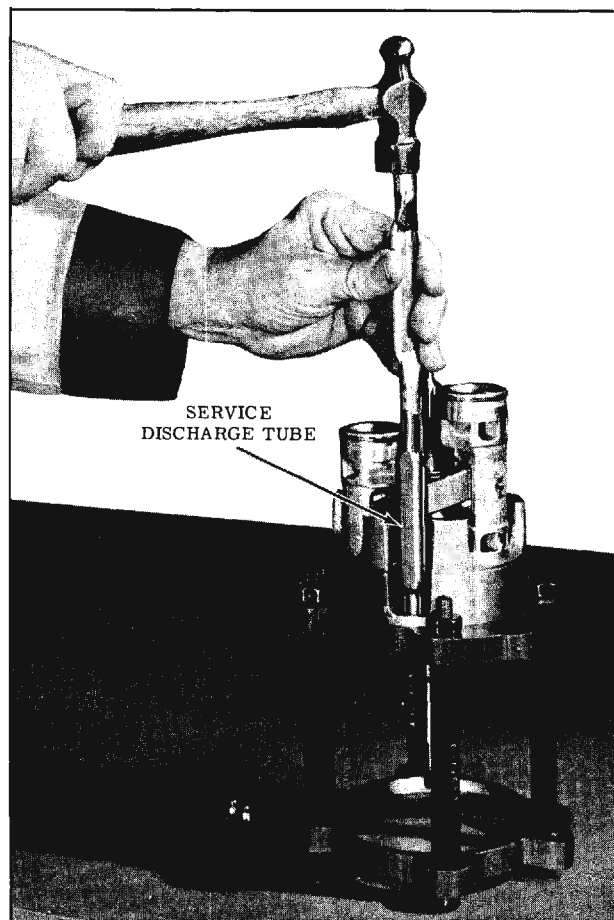

Fig. 15-78 Installing Discharge Tube
20. Assemble one end of the service discharge crossover tube into the hole in the front cylinder. (Fig. 15-78)